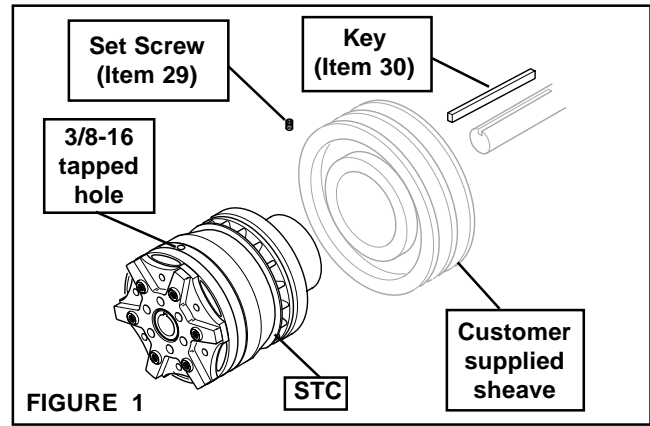

FIGURE 1
1. Install the customer supplied sheave onto the Pilot Mount Drive Disc of the STC (See Figure 1).
2. Insert the Nexen supplied Key (Item 30) into the shaft and slide the STC onto the shaft (See Figure 1).
3. Install and tighten the two Nexen supplied Set Screws (Item 29) (See Figure 1).
Two 3/8-16 tapped holes at 180° are provided in the Piston Guide for securing the STC to the machine frame (See Figure 1).